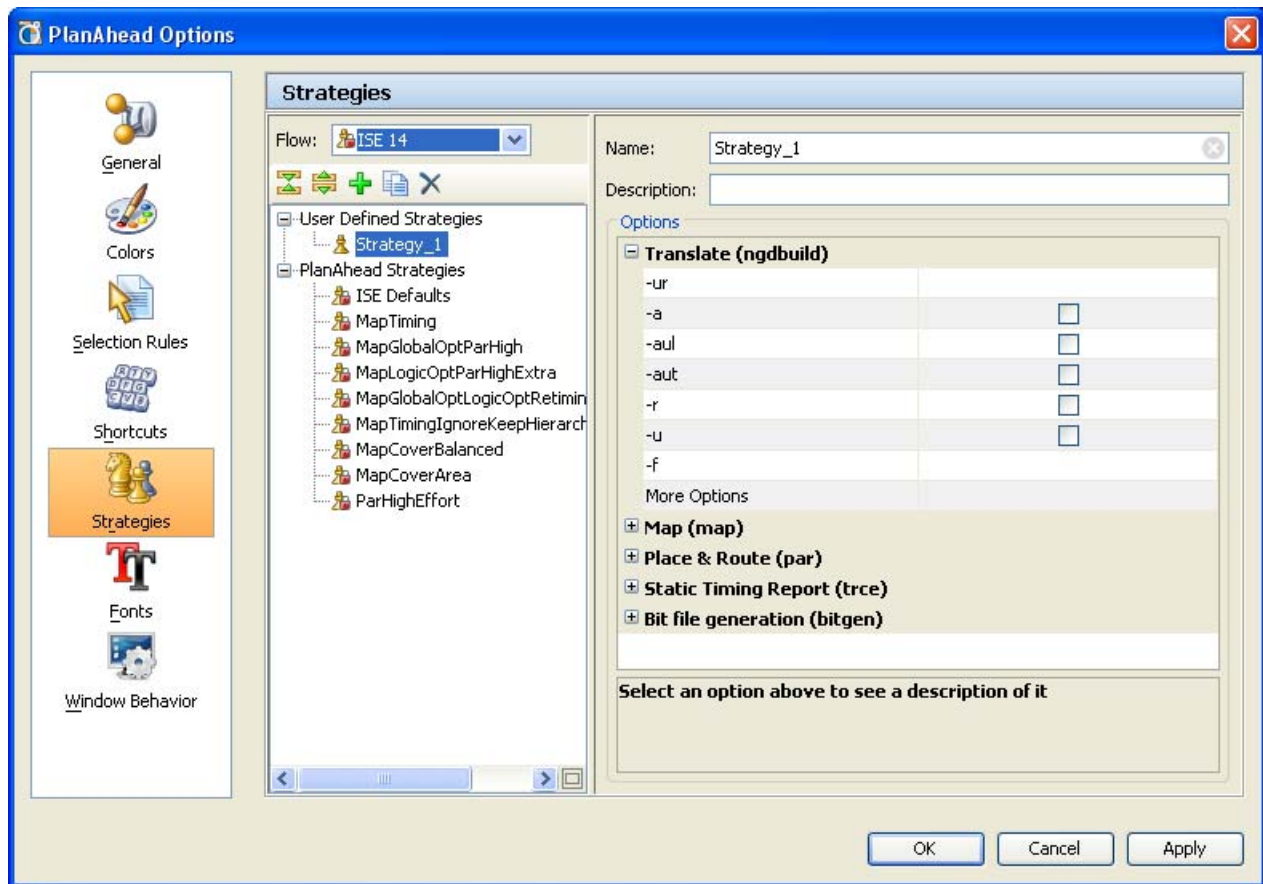

Figure 4-68: Strategies Options
2. Select **Strategies** in the left-side panel. The Strategies dialog box, shown in Figure 4-68, page 180, contains a list of pre-defined strategies for each ISE and Xilinx Synthesis Technology (XST) version.
7. Modify command options by clicking in the command option area (to the right), and selecting an option from the pull down menu, or typing a new value. Available command option settings display in the popup menu, as shown in Figure 4-68, page 180. Notice that you cannot change the default options for predefined PlanAhead tool strategies.